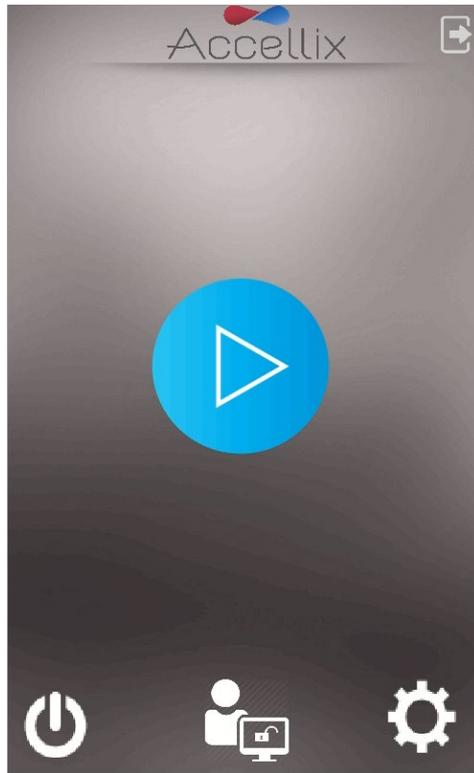

Figure 14: Home screen
Tap the **Next** icon to display the **Home** screen (Figure 14).
2. Verify that system has successfully completed initialization, and that the **Home** screen (or the user login screen if logins are enabled) appears on instrument display (Figure 14).
1. Tap the **Administrator** icon  at the bottom center of the **Home** screen (Figure 14).